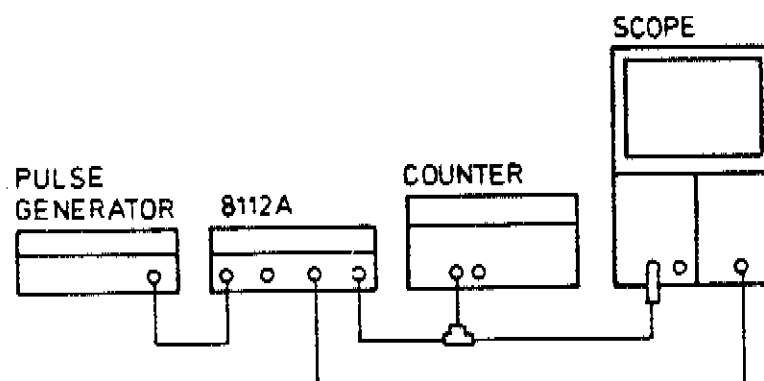

Figure 4-10. Equipment setup for MAN, 1 PULSE, LIMIT, COMPLEMENT and DISABLE performance test.
1. Connect equipment as shown in Fig. 4-10.